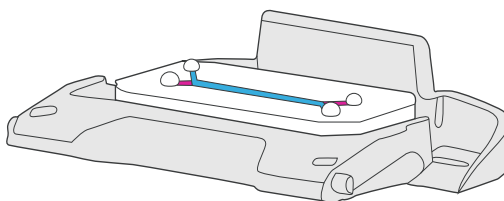

Figure 3. Chip in chip carrier with small droplets of ECM solution at ports
5. Introduce ECM solution through the top channel inlet, leaving small droplets of excess ECM solution on both ports in both channels (Figure 3).